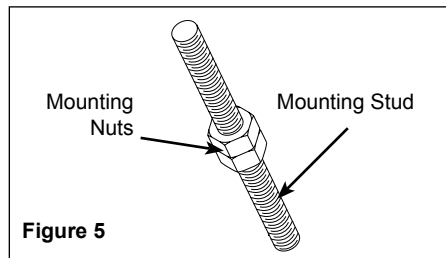

Figure 5
4. Insert three mounting studs into threaded holes on underside of winch. A small amount of thread locker can be used to secure studs in housing. Use two mounting nuts to help tighten studs into housing as shown in Figure 5.